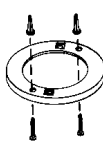
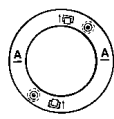

Fig. 1
Fig. 2
- 5.5 After selecting the proper smoke alarm location as described in Section 1, attach the mounting plate to the ceiling as shown in Figure 1. For wall mounting see Figure 2. Place mounting plate on the wall. Be sure the "UP FOR WALL MOUNTING" text and arrow are facing up. Use the screws and anchors provided to secure the mounting plate.